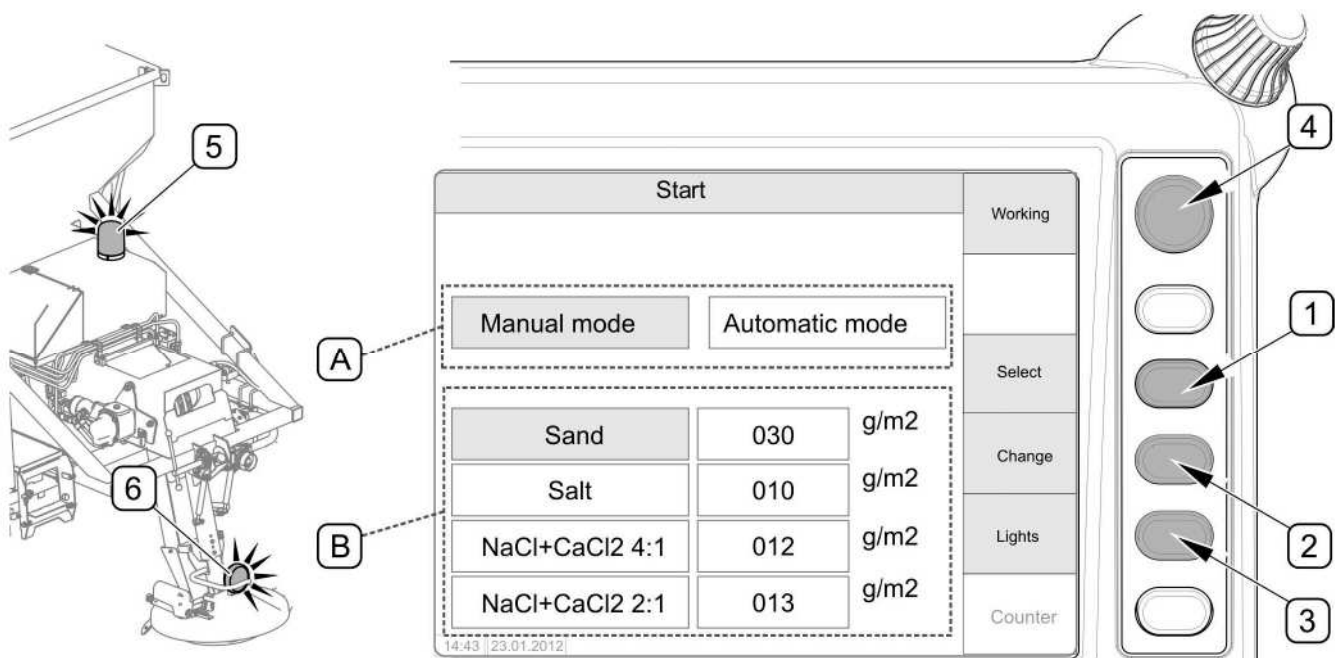

FIG. 4.27 Activating individual functions on control panel home page
Mark mode selection field (A) on „START” home page of the control panel (FIG. 4.27) by means of push-button (1) „Selection”. Select "Manual mode" by means of push-button (2) "Change". Move to field (B) by means of push-button (1) „Selection” and select the type of material to be spread. By means of „Change” push-button, select the type of material to be spread that is currently in the tank. By means of push-button (3), turn on warning lamp (5) at the rear of the machine and lamp (6) near the spreading disc. Move to working page "OPERATION" by means of push-button (4)